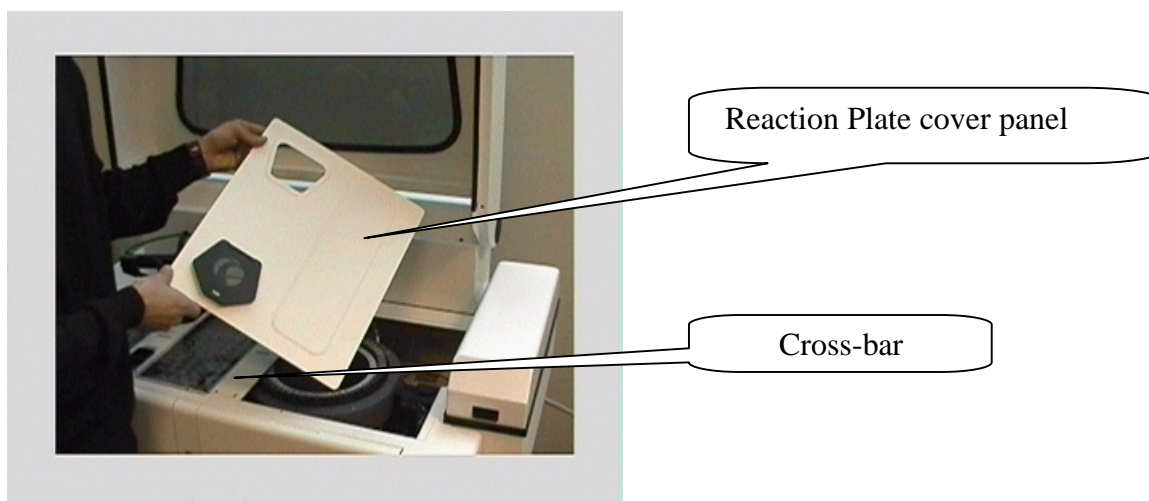

Fig. 1
1. Remove the cover panel of the reaction plate (Fig.1).